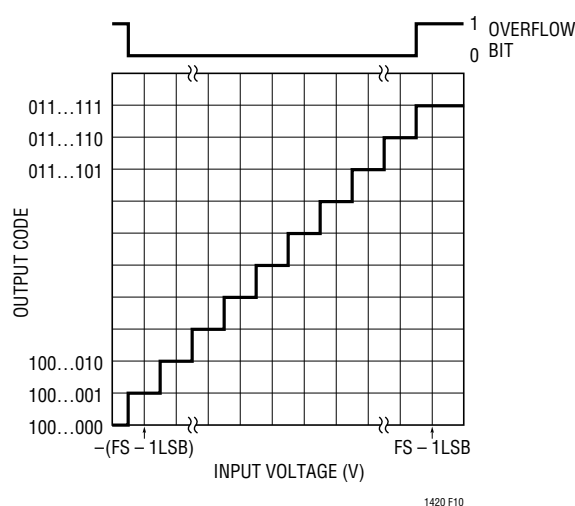

Figure 10. LTC1420 Transfer Characteristics
Figure 10 shows the ideal input/output characteristics for the LTC1420. The output data is two's complement binary for all input ranges and for both single and dual supply operation. One LSB = $V_{REF}/4096$. To create a straight binary output, invert the MSB (D11). The overflow bit (OF) indicates when the analog input is outside the input range of the converter. OF is high when the output code is 1000 0000 0000 or 0111 1111 1111.